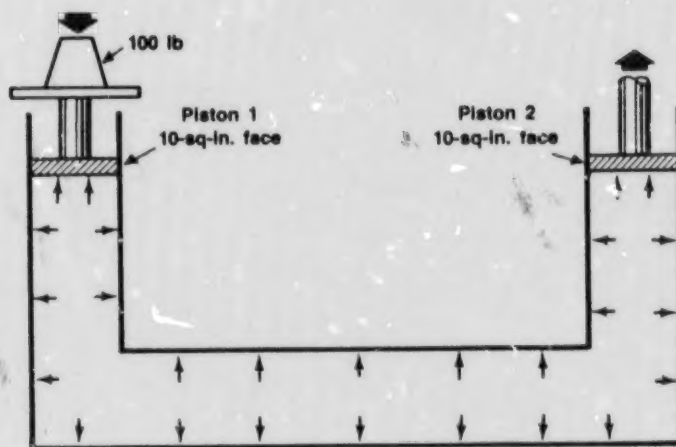

Fig. 1. Gas transmits applied pressure equally in all directions.
3. **Gases transmit applied pressure equally in all directions** (fig. 1). Every square inch of the inside of a container, regardless of its shape, has an equal pressure exerted on it. This pressure is always